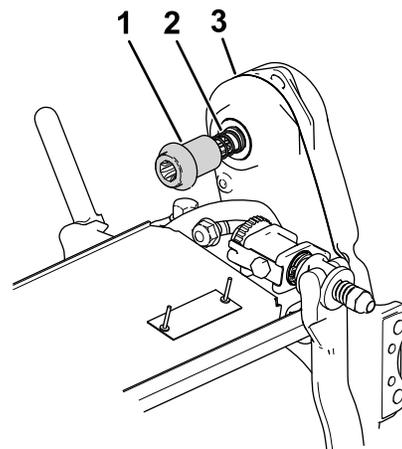

Figure 7
- Install the coupler and spring to the reel-drive-assembly of the cutting unit (Figure 7).
- Ensure that the coupler (Figure 7) can easily move back-and-forth on the transmission driveshaft.